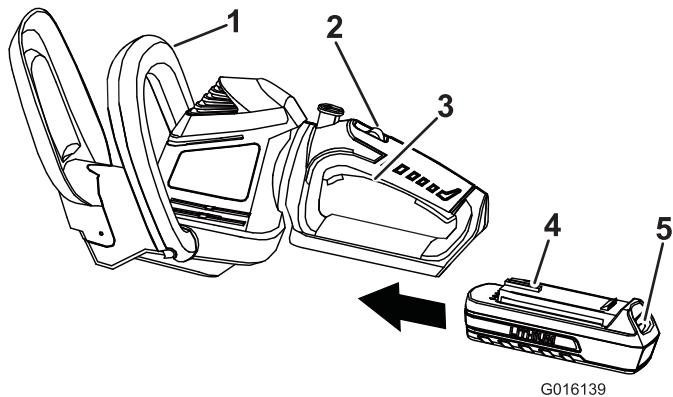

Figure 3
3. Grasp the trigger handle (Figure 3).
5. Place one hand on the trigger handle. Place the other hand on the auxiliary handle (Figure 3).
6. Slide the lock switch backwards, towards you, then squeeze the trigger switch to turn on the hedge trimmer (Figure 3). The trimmer will stay on as long as the trigger switch is squeezed. Lock-off switch may be released once hedge trimmer is running (Figure 3).
2. Align the tongue of the battery pack with the cavity in the handle housing (Figure 3).
1. Release the trigger switch (Figure 3).